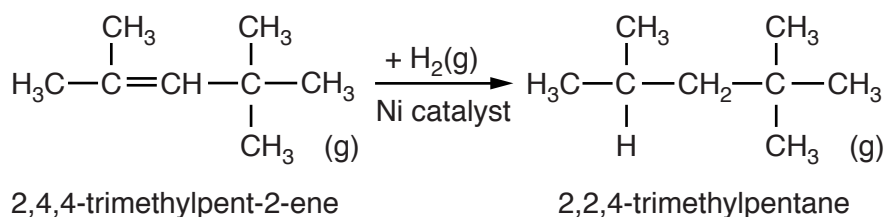

Fig. 3 The hydrogenation of 2,4,4-trimethylpent-2-ene to 2,2,4-trimethylpentane
- The alkene is hydrogenated (using nickel as the catalyst) to 2,2,4-trimethylpentane (isooctane, **Fig. 3**).